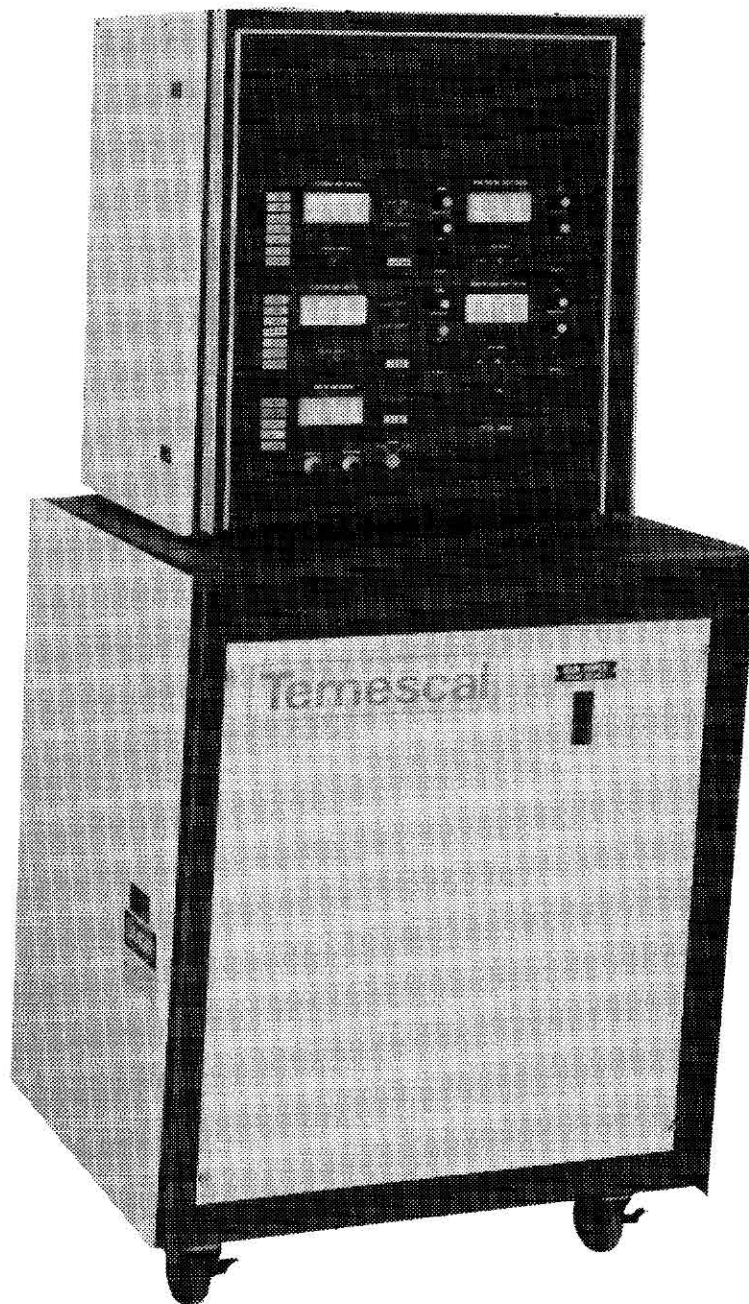

Figure 3-1. CV-14 A and B Power supply and control module
3.1 FRONT PANEL CONTROLS AND INDICATORS (Figure 3-1)